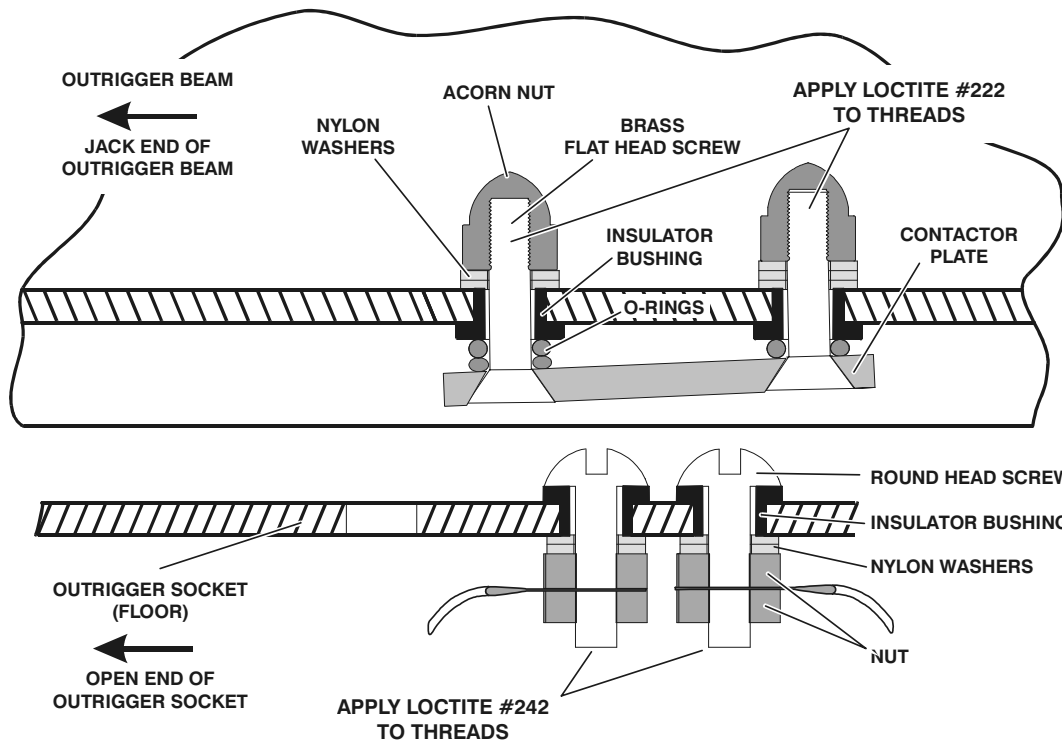

Figure 3-1. Outrigger Socket Contactor Heads and Outrigger Beam - Contactor Plate Mounting Hardware (ORIGINAL AND 5/2001 - DESIGN).
Outriggers are not properly inserted in outrigger sockets. Power source is OFF. Fuse(s) blown. Check for loose wire(s) on contactor screws under outrigger sockets (causing an open circuit). Contactor damaged. LED burnt out. Pull pin on outrigger socket is damaged.	Check all outriggers for proper installation in outrigger sockets Check power source. Check all insulating grommets on inter-lock contactors in base frame outrigger sockets and contactor plates on outrigger beams. Replace damaged grommet(s) and replace blown fuse. Properly reinstall wire to contactor screw per Figure 3-1. and instructions in Section 3.4, Outrigger Interlock Contacts. Replace contactor. Replace LED. Replace pull pin.
Outriggers are not properly inserted in outrigger sockets. Power source is OFF. Fuse(s) blown. Check for loose wire(s) on contactor screws under outrigger sockets (causing an open circuit). Contactor damaged. LED burnt out. Pull pin on outrigger socket is damaged.	Check all outriggers for proper installation in outrigger sockets Check power source. Check all insulating grommets on inter-lock contactors in base frame outrigger sockets and contactor plates on outrigger beams. Replace damaged grommet(s) and replace blown fuse. Properly reinstall wire to contactor screw per Figure 3-1. and instructions in Section 3.4, Outrigger Interlock Contacts." Replace contactor. Replace LED. Replace pull pin.
It is very important that the outrigger interlock contacts located on the bottom surface inside the outrigger sockets of the base frame, and the contactor plate on the bottom of each outrigger beam are installed correctly. These parts when installed properly will be insulated from (–) negative ground. Read the following steps and see Figure 3-1. for correct installation. Also see Troubleshooting Tables 3-1 & 3-2. for any reference to possible problems with interlock contacts.
(See Figure 3-1.)
3. Install one (1) #8 nylon washer onto contactor screw threads against insulating grommet.
5. Install one (1) standard #8 brass nut and thread in against nylon washer until insulating grommet just starts to compress. If necessary tighten nut further until top of contactor screw head measures 0.212" off floor of outrigger socket. (See Figure 3-1.)
2. Place one (1) #8-32UNC x 5/8" long contactor screw through each insulating grommet as shown in Figure 3-1.
3. Install two (2) #8 nylon washers onto contactor screw threads against insulating grommet, on the underside of the outrigger socket.
5. Install one (1) standard #8 brass nut and thread in against nylon washer until insulating grommet just starts to compress.
2. Locate contactor plate and insert two (2) brass #8 - 32UNC x 3/4" long countersunk flathead screws through the contactor plate and install two (2) nylon washers on each screw against contactor plate.
4. Install one (1) nylon washer on each screw inside of outrigger beam, against insulating grommet.
5. Thread a brass #8 - 32UNC locknut onto each screw inside outrigger beam, tighten screws until .175" height exists between bottom of plate and bottom most edge of outrigger beam. (See Figure 3-1.)